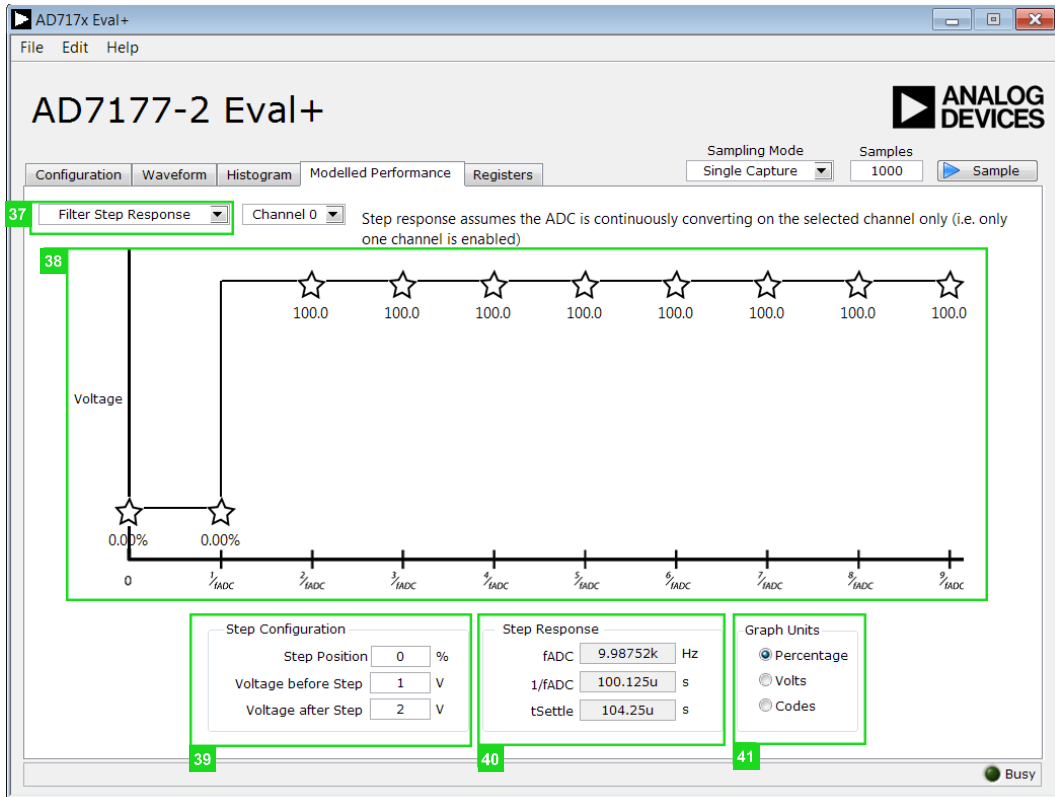

Figure 21. Filter Step Response of the AD7177x Eval+ Software
The **Filter Step Response** dropdown list (37) allows the user to switch between the three sections of the **Modelled Performance** tab. Figure 21 shows this tab when **Filter Step Response** is selected from the dropdown list.